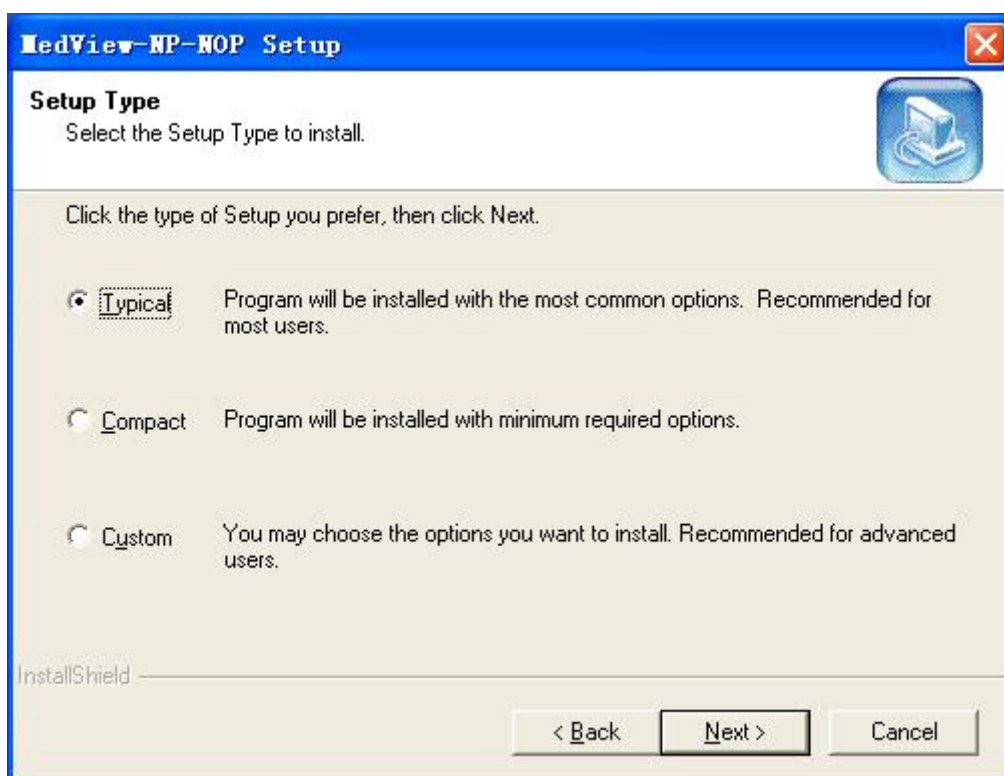
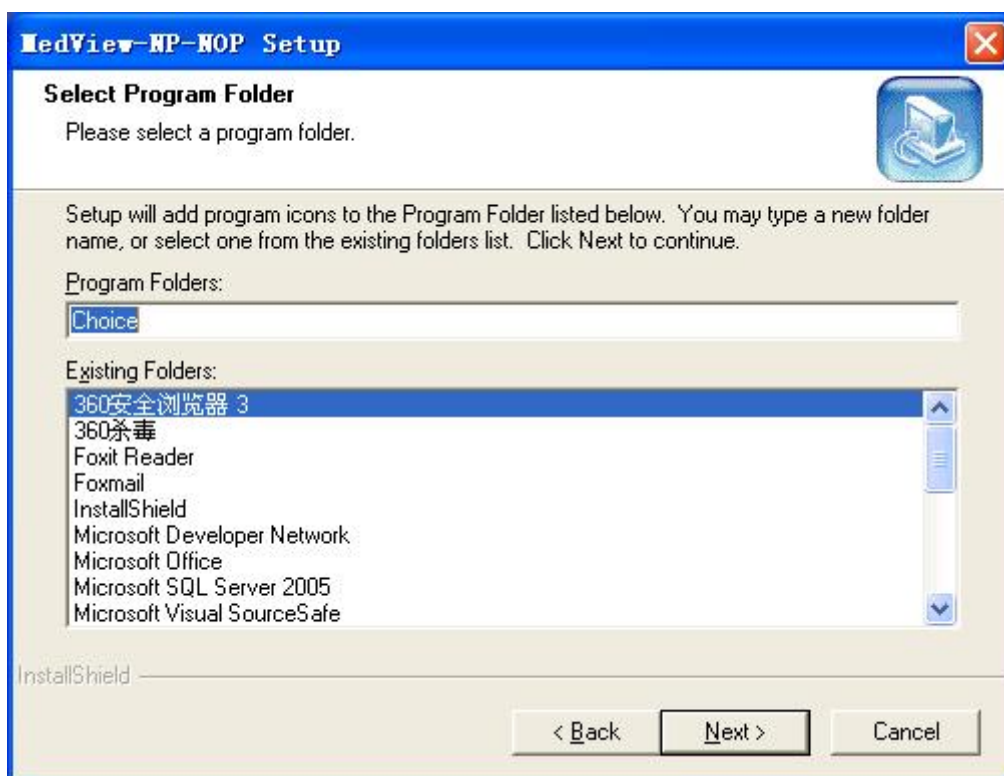

Figure 2-5
Figure 2-6 Click “Next”
(5) To choose MedView-NP-NOP setup type, click the radio button “Typical”, “Compact” or “Custom” in Figure 2-5, then click “Next”, the Figure 2-6 will appear.